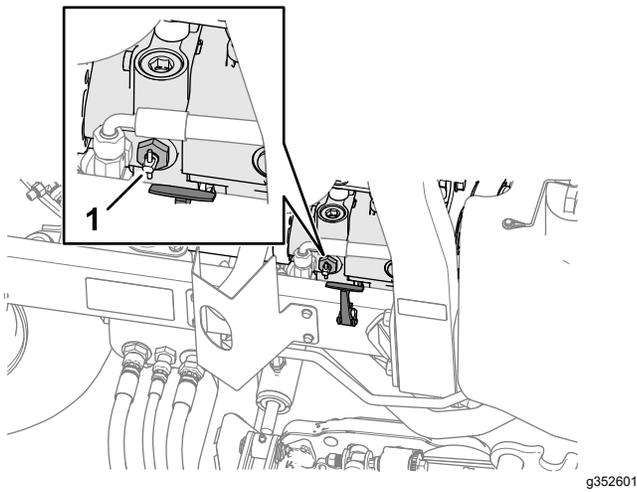

Figure 51
2. Near the right hood latch, rotate the handle bypass valve on the pump (Figure 51) and rotate the valve 90°.